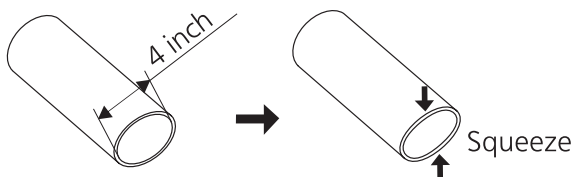

Fig. 3
1. Position fan housing between the joists. Fasten housing to joist using two screws (ST4X30) through the housing flange, and fasten mounting bracket to joist using two screws (ST4X30). See Fig. 3.